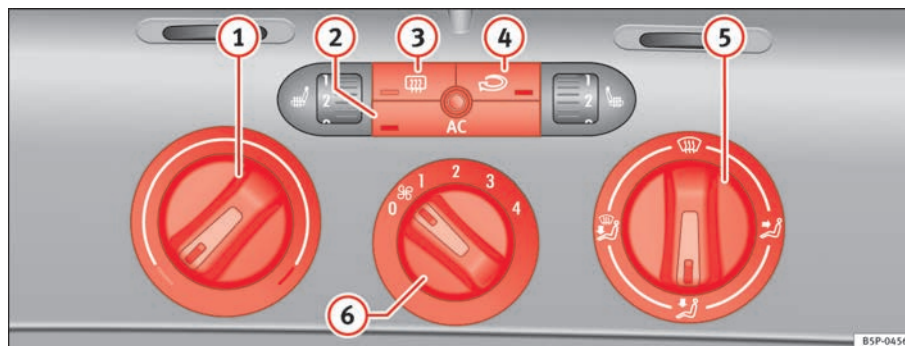

Fig. 128 On the dash panel: Climatic controls
- By using the regulators ⇒ fig. 128 ① and ⑤ and the control ⑥ the temperature, air distribution and the turbine speed can be set.
- To switch a function on or off, press the appropriate button ②, ③ or ④. When the function is activated, the display window in the lower corner of the button is lit.
- ① Temperature selector ⇒ page 156
- ② Button **AC** – Heating, ventilation and air-conditioning system on/off ⇒ page 156
- ③ Button – Rear window heating. The heating will be switched off automatically approximately *20 minutes* after switching on. It can also be switched off beforehand by pushing the button.
- ④ Button – Air recirculation mode ⇒ page 157
- ⑤ Air distribution control ⇒ page 156
- ⑥ Blower switch. There are four speed settings for the air flow. The air flow should always be set at the lowest speed when driving slowly.
- Switch on the air conditioning using the button ⇒ page 155, fig. 128 **AC**.